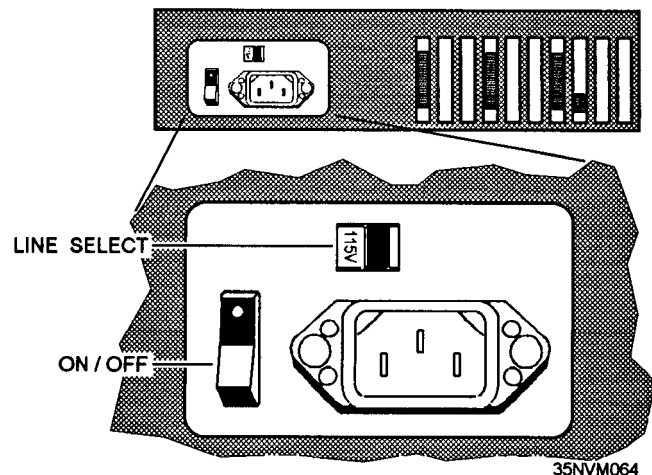

Figure 8-20.—Desktop computer back panel.
**APPLY POWER.**— Power is applied to the microcomputer with a simple ON/OFF switch usually mounted on the back of the desktop computer chassis (fig. 8-20). A separate monitor requires its own power switch. Portable micros usually have fixed time period rechargeable batteries (6, 8, or 12 hours) with a normal ac power option. Presence of system power is indicated by single indicator lamps on the front of the chassis and the monitor mounting. Sometimes in the same area as the ON/OFF switch, a selectable switch (fig. 8-20) called a **voltage or line select switch** allows the microcomputer to operate on voltages in the range of 100 to 130 volts or 200 to 230 volts.